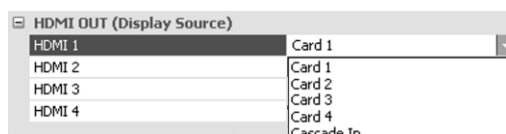

Figure 3-16 Phoenix-Q Properties: HDMI OUT (Display Source) Setting
- ✓ If we select "Card 1" for "HDMI 1" (as shown in Figure 3-16), then only the 4 windows of card ID 1 plus the 16 windows of chassis ID 2 will be displayed.